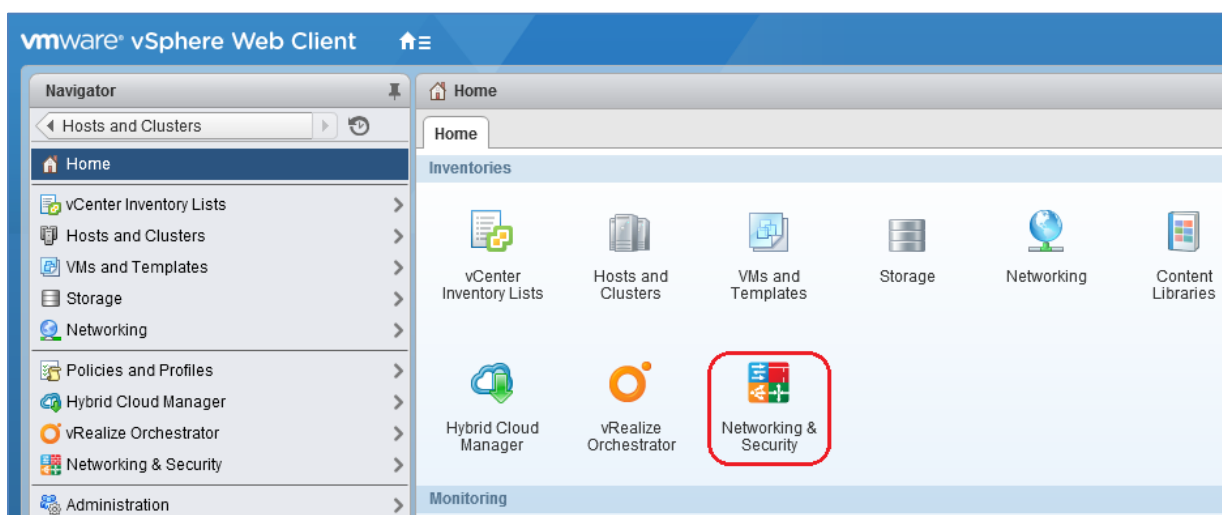

Figure 70 Networking & Security icon
3. The **Networking & Security** icon now appears on the **Home** page as shown in Figure 70.